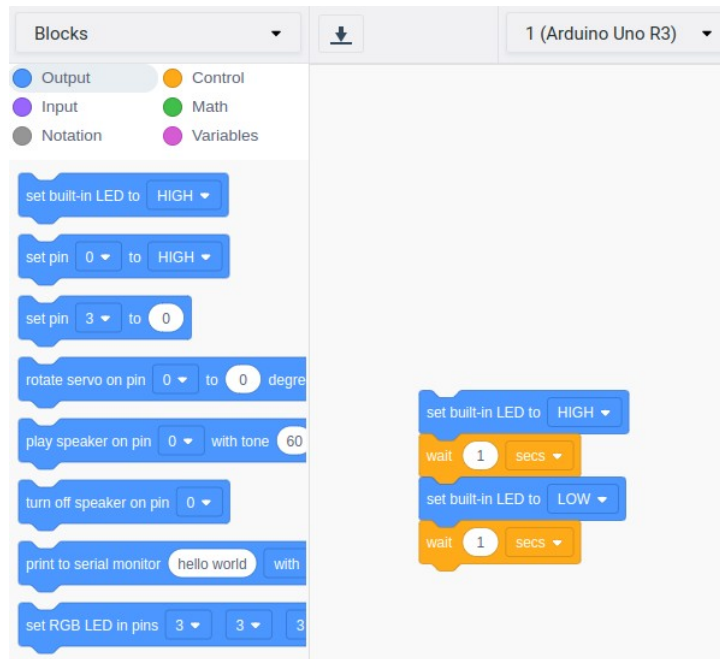

Figure 13.5: Tinkercad Code Editor
- You’ll see something similar to Figure 13.5, showing “Blocks” (for drag-and-drop coding) or “Blocks + Text.”